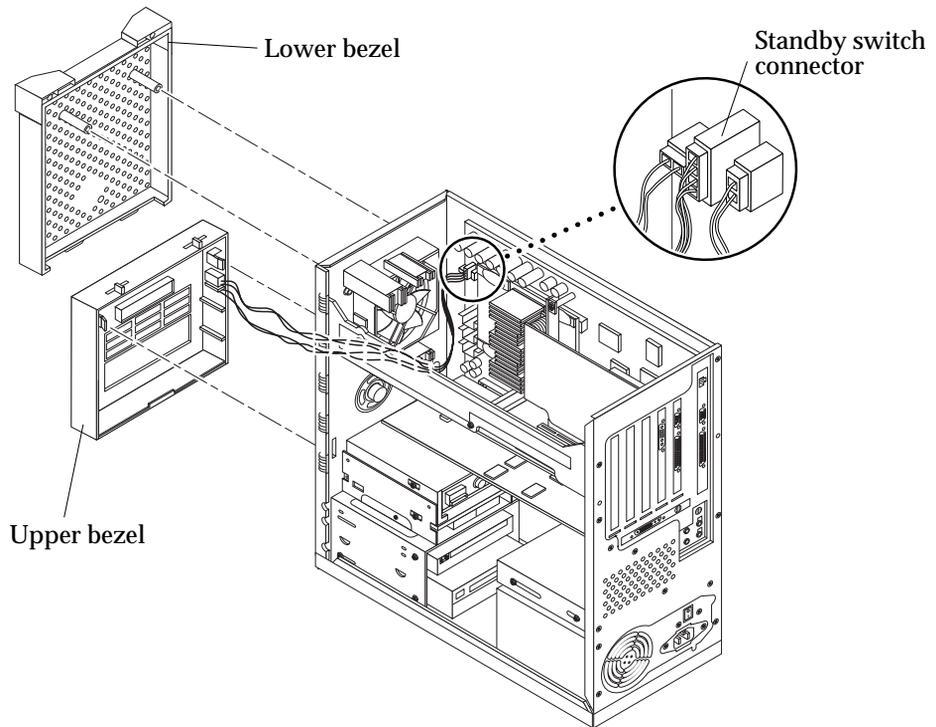

FIGURE 8-16 Removing and Replacing the Front Bezel (Ultra 10)
6. Remove the front bezel from the Ultra 10 as follows (FIGURE 8-16):
- 3. Replace the Ultra 10 front bezel as follows (FIGURE 8-16):**